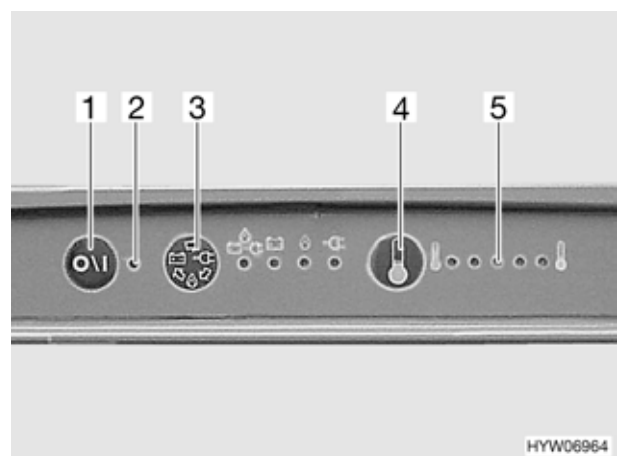

Fig. 134 Operating controls for refrigerator
If the 240 V supply is disconnected and the vehicle's engine is not running the "SES" selects the gas supply. When selecting gas operation the ignition fuse is opened automatically so gas can get into the burner. At the same time the electronic ignition is activated. If the gas flame is extinguished, e. g. by blast of wind, the ignition is activated immediately and re-ignites the gas. When the gas operation is faulty, the indicator lamp (Fig. 134,2) flashes red.
- ▶ Open flames are prohibited at petrol stations. If the stop takes longer than 15 minutes, the refrigerator has to be turned off at the button (Fig. 134,1).
When turned on the first time the refrigerator automatically selects the middle thermostat position. This position can be adjusted manually by using the button (Fig. 134,4). The LEDs (Fig. 134,5) show the selected thermostat position. The refrigerating temperature for the three types of energy is set with the button. It takes a few hours till the refrigerator reaches its normal operating temperature. When changing over the operation mode the thermostat setting will be maintained. The refrigerating temperature is retained regardless of the type of power being used.
- Press the key (Fig. 134,1). The green indicator lamp (Fig. 134,2) lights up.
- Adjust refrigerating temperature with the button (Fig. 134,4). The LEDs (Fig. 134,5) show the selected thermostat position.
When the gas operation is faulty, the indicator lamp (Fig. 134,2) flashes red.
The energy source can be adjusted manually by using the button (Fig. 134,3). When pressing the button, the energy source is selected in the following order:
- Press the key (Fig. 134,1). Indicator lamp (Fig. 134,2) is no longer illuminated.